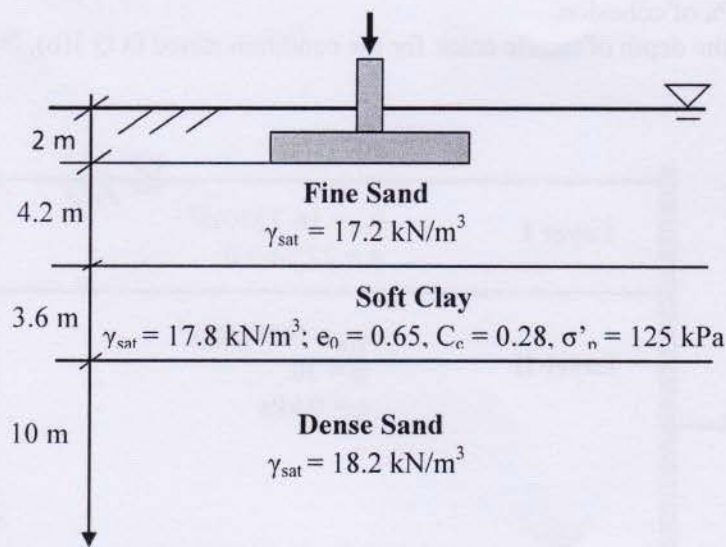

Fig. 2 (Question No. 2)
2. (a) A square footing (2 m x 2 m), in the soil profile (Fig. 2), transmits 1120 kN column load to soil below the footing. 8
- (c) Estimate the primary consolidation settlement of the clay layer (Fig.2). Apply 2V:1H stress distribution for calculating increase in stress. 16